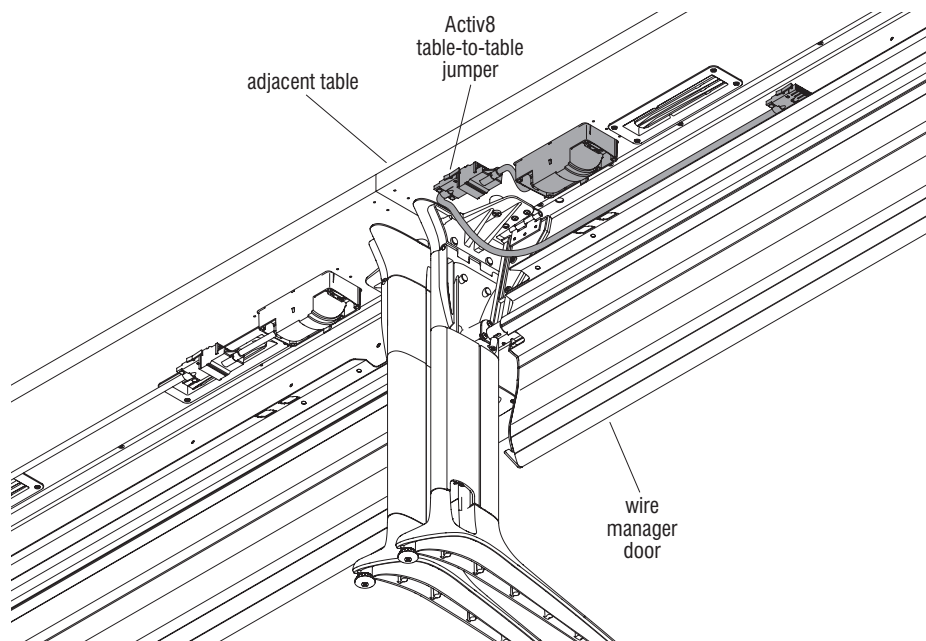

Figure 15
2. Fold the loose end of the jumper into the wire trough assembly of the adjacent table (Figure 15).